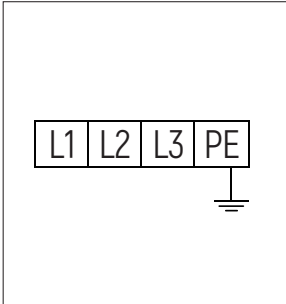

Fig. 6
- Connection of power line: Connect the 400V three-phase four-wire power line (cable of $3 \times 2.5\text{MM}^2 + 1 \times 1.5\text{MM}^2$) to the control cabinet interfaces L1, L2, L3 and input terminal, and connect the PE grounding wire to the labeled grounding bolt first and then to the labeled grounding bolts at the bottom of the two platforms (Fig. 6).